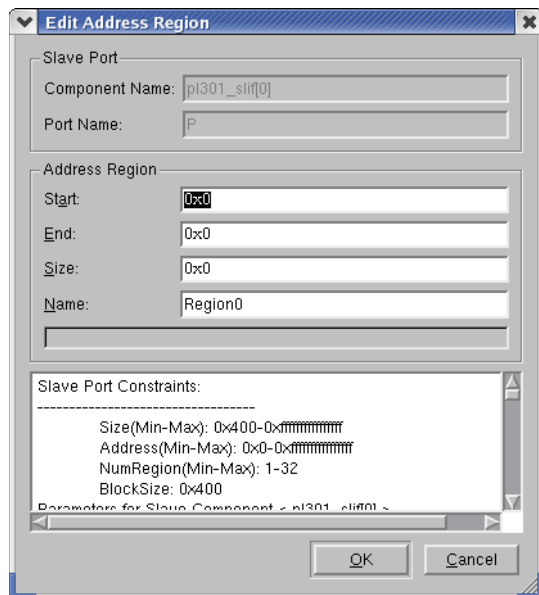

Figure 4-12 Edit Address Region dialog for slave 0
3. Click on **Edit...** to open the Edit Address Region dialog box. Figure 4-12 on page 4-14 shows the dialog box that is displayed.
8. Click on **Edit...** to open the Edit Address Region dialog box as Figure 4-12 on page 4-14 shows.